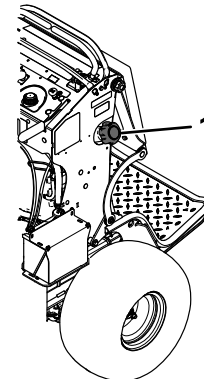

Figure 57
3. Clean around the fuel cap to prevent debris from getting into the fuel tank (Figure 57).